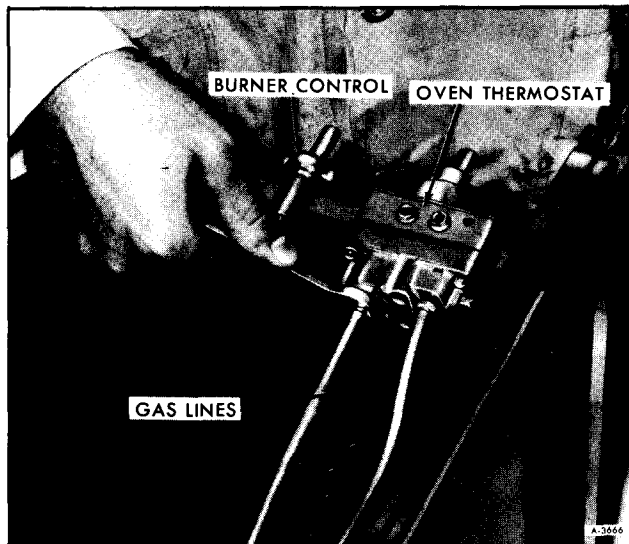

Figure 9—Disconnecting Gas Lines From Rear Of Thermostat
4. Disconnect gas lines from rear of thermostat control as shown in Figure 9.
4. Disconnect gas lines from manifold (figures 9, 12, and 13).